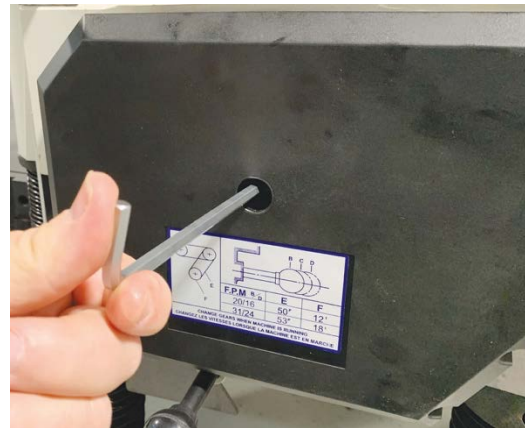

Figure 27
4. Using a 6mm hex wrench, remove gear box cover mounting screw located in the center of cover (see Figure 27). With this screw removed, adjust the cover to allow the right-side safety plate to swing down freely. Remove the cover.